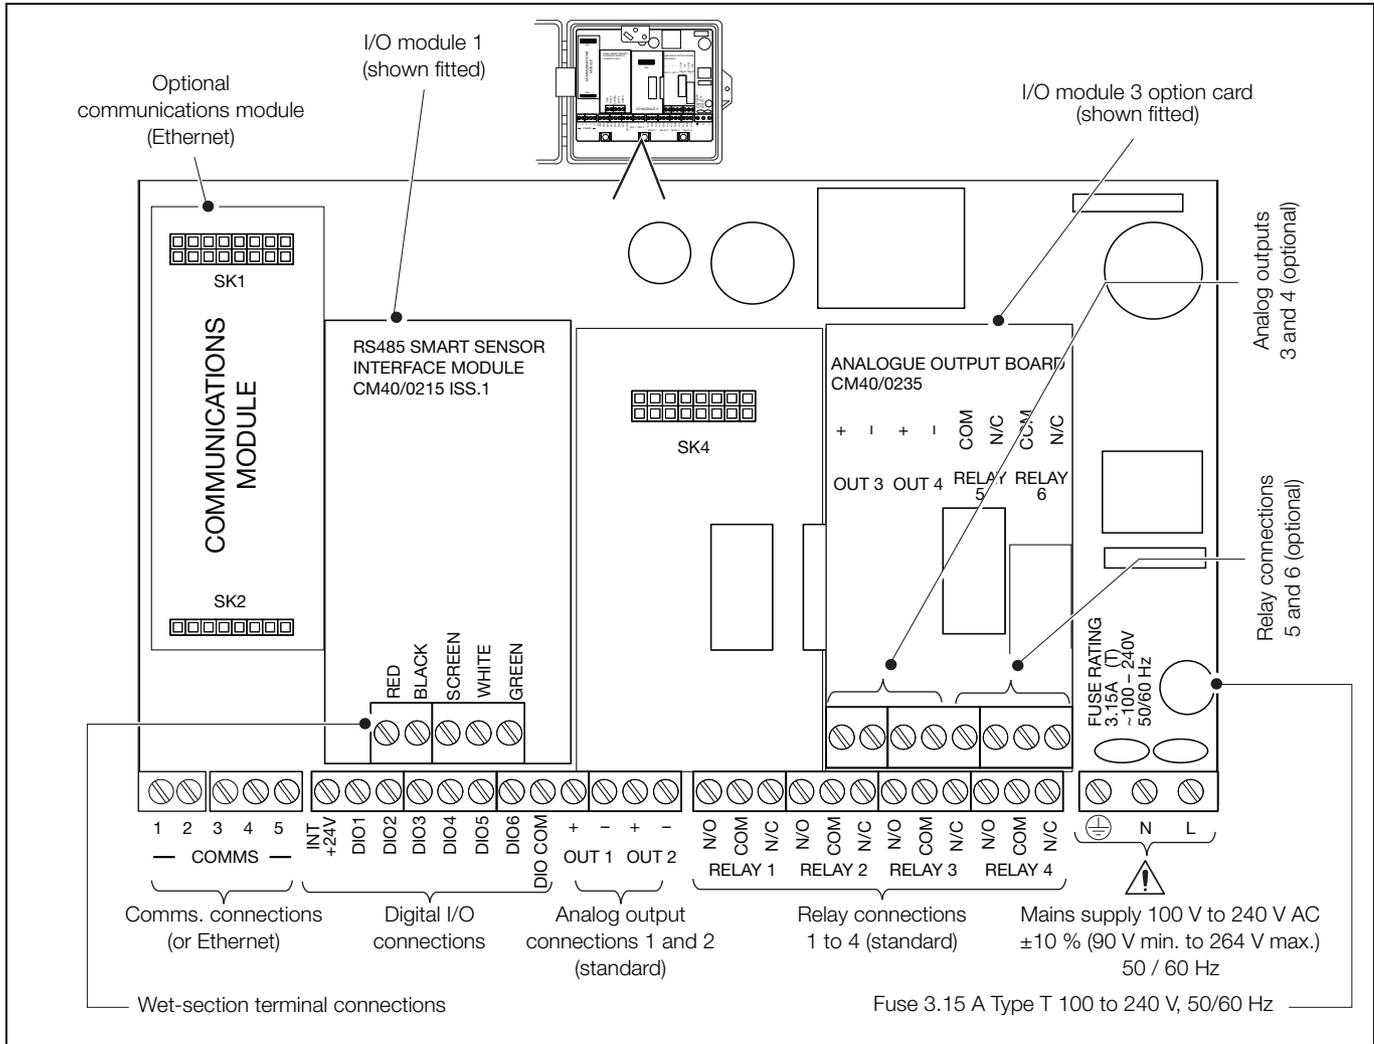

Fig. 3.17 Connections overview
- Ensure the correct fuses are fitted – see Fig. 3.17, page 20 for fuse details.